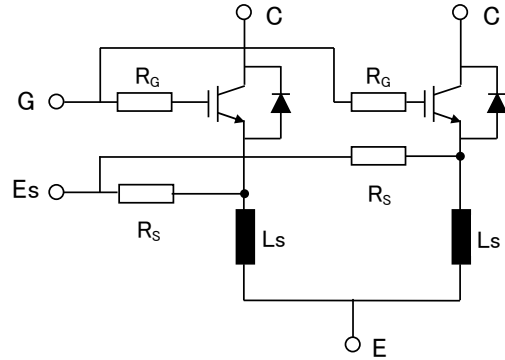

Figure 9-14. Measures to limit inductive current in emitter wiring
- Insert a low value resistance (e.g. 0.1 Ω) or ferrite core in the emitter wiring of the gate drivers in case an inductive current flows in the loop of the main emitter wiring and the gate driver wiring. This loop current may cause a difference in the switching speeds between paralleled devices by influencing the instantaneous gate voltage. (Figure 9-14)